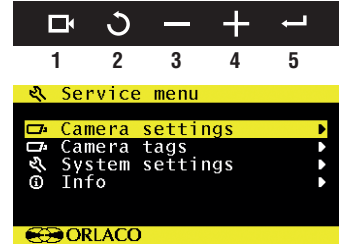

Figure 3
To open the service menu, simultaneously press the camera selection key (1), the minus key (3) and the plus key (4). The Service menu (see Figure 3) will appear. The following keys are used to navigate through the menus: